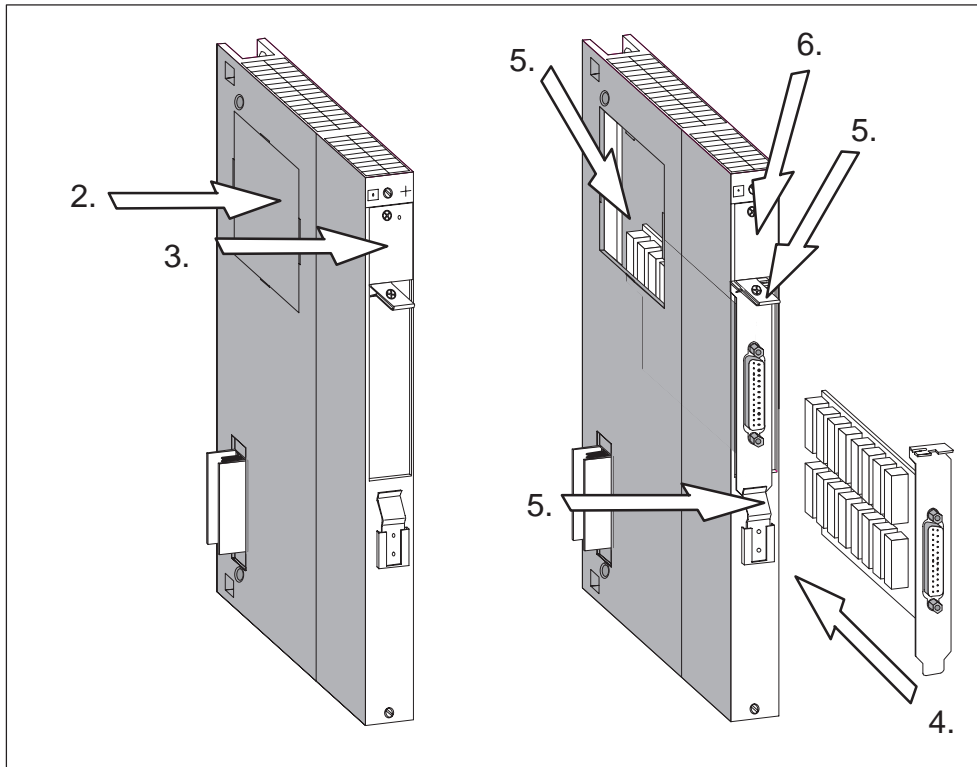

Figure 2-2 Installing an AT card in an ATM 478 AT adapter module
2. Remove the cover from the upper left side of the ATM 478 (see Figure 2-2).
3. Remove the mounting bracket for the AT module from the upper front of the ATM 478 by undoing the screw (see Figure 2-2).
4. Insert the AT card into the slot from the front (see Figure 2-2).
5. Press the AT card through the side opening and at the front downward into its connector until it engages. Ensure that the AT module support plate slides under the metal spring on the front of the ATM 478 (see Figure 2-2).
6. Fit the mounting bracket over the angled part of the support plate of the AT card and screw it onto the support plate of the AT card and to the ATM 478 (see Figure 2-2).